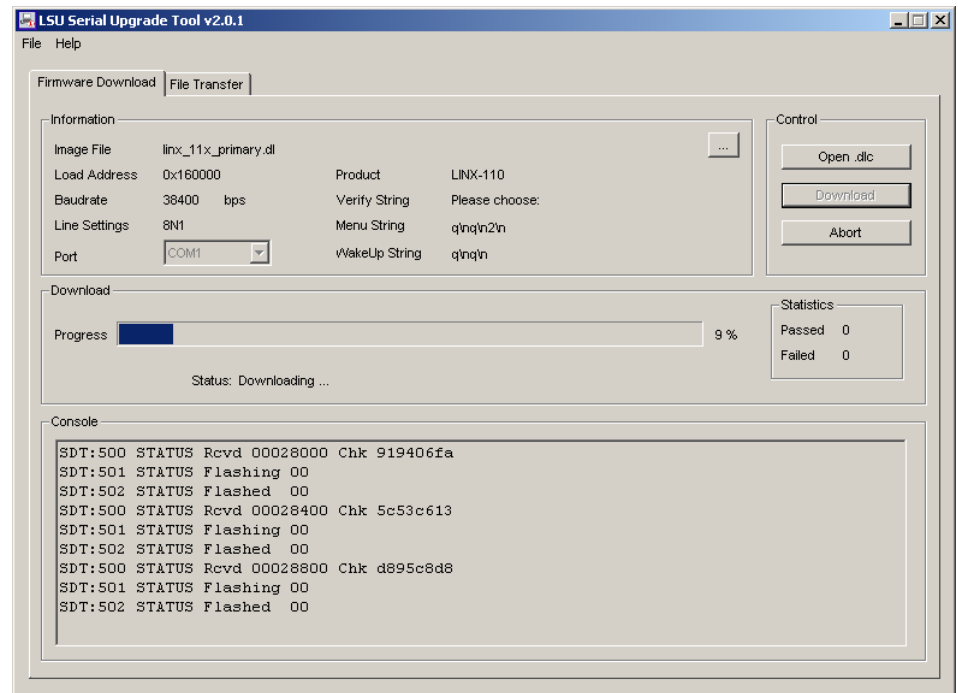

Figure 152: Progress Bar during Firmware Download.
2. If the L-Proxy is not connected to COM1 you can change the port to COM2, COM3, or COM4. Make sure that the product shown under "Product" matches the device you are upgrading. Press **Download** to start the download. A progress bar as shown in Figure 152 can be seen.